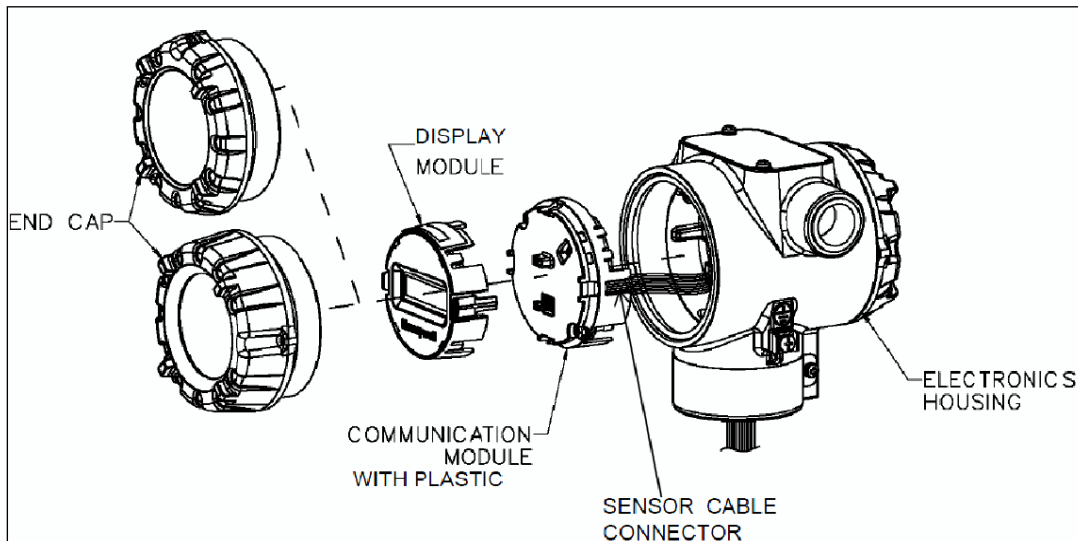

Figure 25 – ST 700 Standard Transmitter - Disassembly for Meter Body Replacement
4. Refer to Figure 25. Loosen the End Cap Lock, and unscrew the End Cap from the electronics side of the transmitter housing.